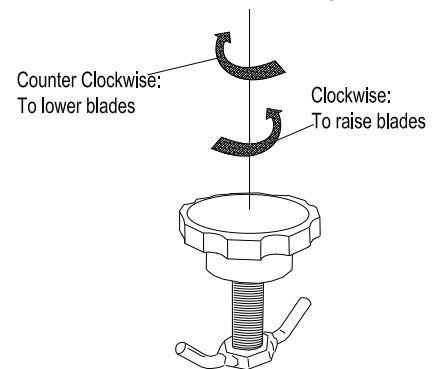

Fig. 3
**ADJUSTING BLADE DEPTH:** The depth of the blades can be raised or lowered by rotating the knob on the top of the adjustment lever. The blades are lowered by rotating the knob counter-clockwise, and raised by rotating the knob clockwise. The relative depth of the blades can be gauged by using the depth scale located on the right front corner of the engine base. (See Fig. 3)
**FOLDING HANDLE:** This unit is equipped with a folding upper handle for easier storage and transportation. The handle can be folded by sliding the handle lock loops up (item 28). This releases the upper handle, allowing it to be folded over the unit.